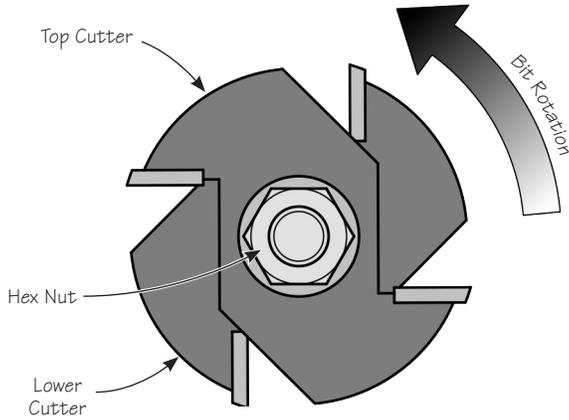

Figure 7: Orientation of two adjacent cutters.
1. When stacking several cutters on the arbor, always orient adjacent cutters at 90° to one another (see **Figure 7**). This prevents the carbide from coming into contact with the cutter web or other carbide. It also results in a more balanced cutting operation.
3. Be sure to install the cutters in the proper direction. When viewed from above, the bit spins counterclockwise, as shown in **Figure 7**.